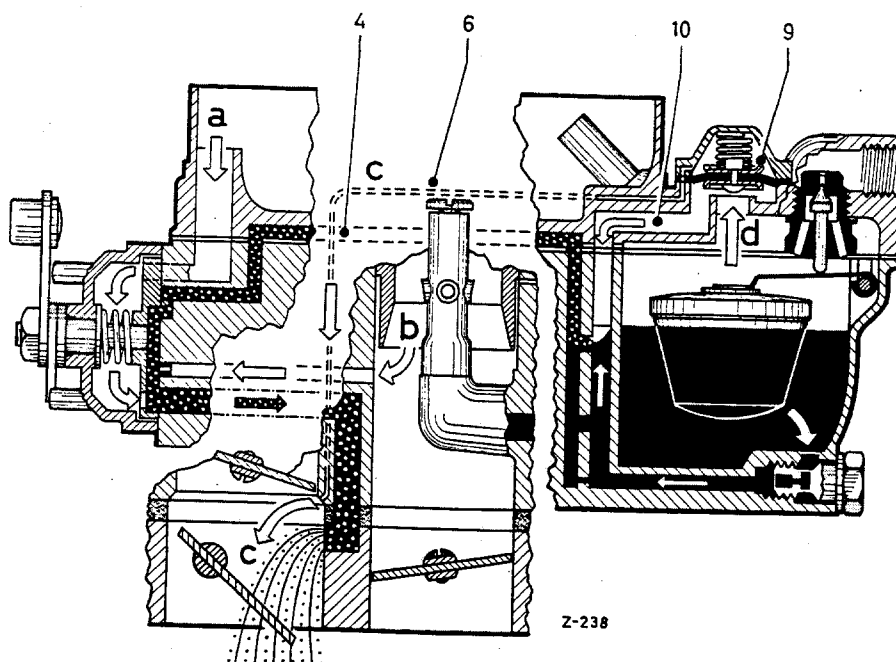

Fig. M 31 S/010
As soon as the engine has warmed up a little, after the car has been driven away, the starter knob can be pushed half-way in. The starter rotary slide valve then turns to the right; the chamber (19) of the slide valve is now opposite the slot (22) of the starter housing (see Fig. M 31 S/07). As the slot (22) is connected to the graded bore (2) only by a fine canal (24) the amount of fuel passed is greatly decreased. The flow of the fuel is shown in Fig. M 31 S/010).